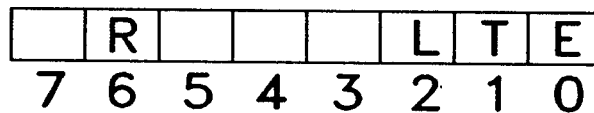

Figure 1 - Status Byte Definition
The 2045 is capable of generating a service request (SRQ) on three conditions: (1) when an error occurs (ERRSRQ), (2) when it is ready to receive a command (LISNSRQ), and (3) when the output buffer is loaded (TALKSRQ or OUTSRQ). A corresponding bit in the status byte is set to indicate which condition has occurred. It is possible to have an SRQ generated by multiple conditions, in which case multiple bits will be set in the status byte. If a second SRQ is generated before the first can be serviced, the new status byte is the logical OR of the original and updated status. Figure 1 shows the status byte definition.